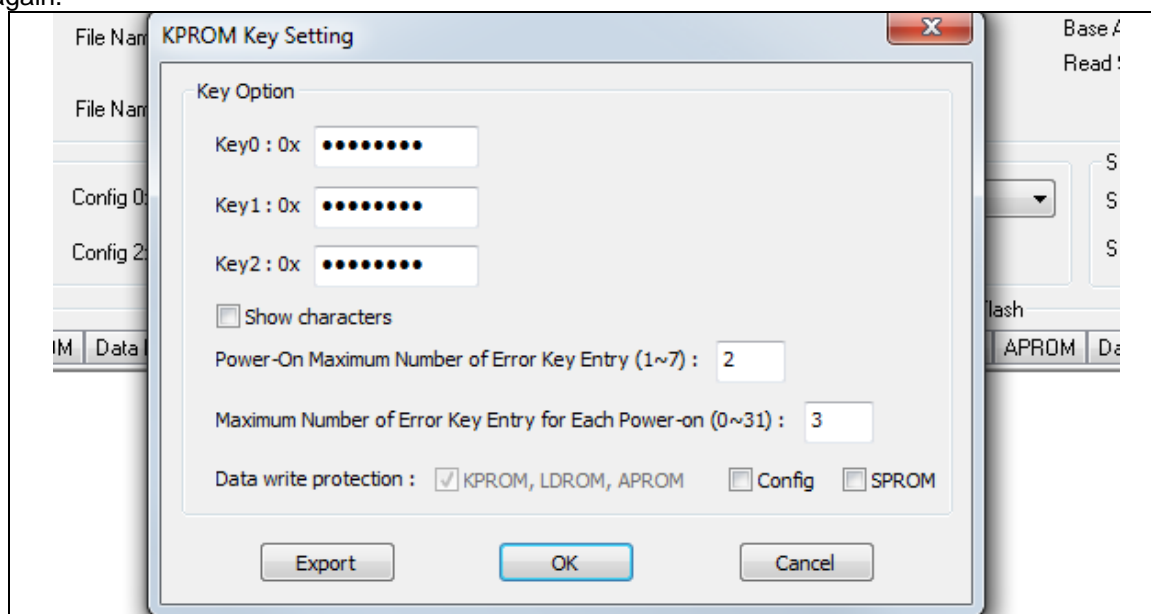

Figure 8-11 KPROM Key Setting Form
On the KPROM Key Setting form, user can select the desired operation and fill in KPROM keys and error key retry counts. KPROM keys are three 32-bit with hex-code input format. User can set the key0 ~ key2, error key retry counts and the optional write-protected region of Config or SPROM in Figure 8-11.